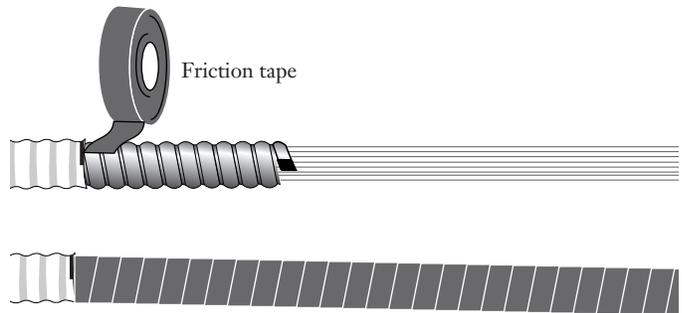

Figure 26
5.16 Place a wrap of friction tape over the exposed armor and over the entire length of the exposed cable core (Figure 26).